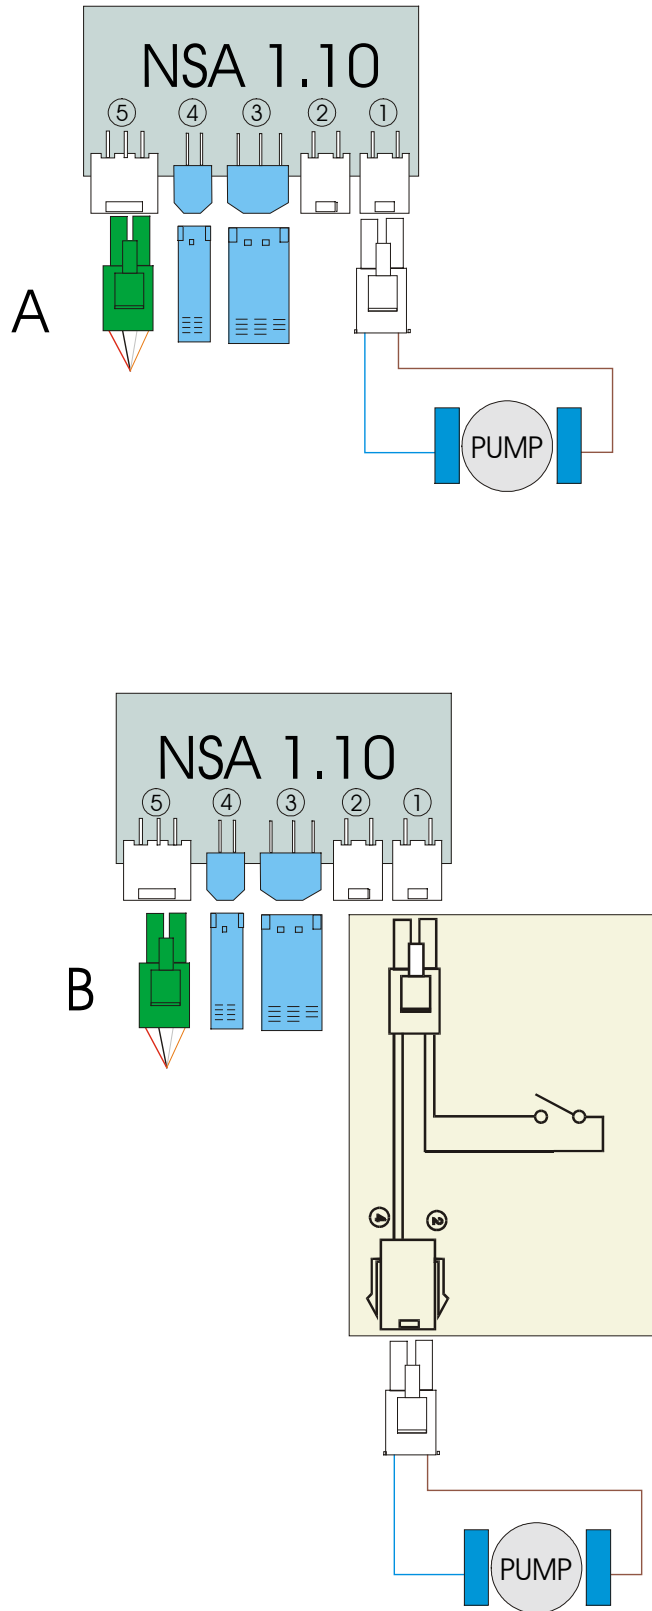

Figure 2 "Inserting the Pump Control Wiring Harness"
- Extract the pump connector from the node (connector 1 in Figure 2 A);
- connect the free end of the “Pump Control Wiring Harness ”to the node of connector 1 (Figure 2 B).